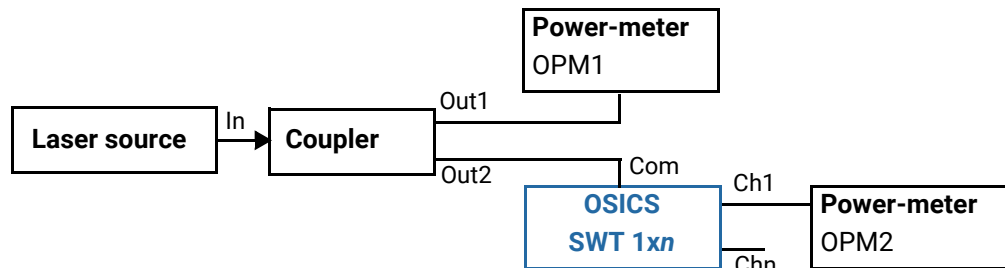

Figure 76: SWT Performance Test – Repeatability
2. Connect the measurement equipments as indicated on *Figure 76*, p. 115.